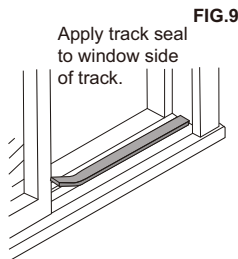

FIG.9
- 7 Peel off protective backing** from track seal. Apply seal to room side of window track (FIG.9). Center of seal strip should coincide with the line marked in Step 5. The two screw holes drilled in Step 6 should be directly above seal strip in the inner track.